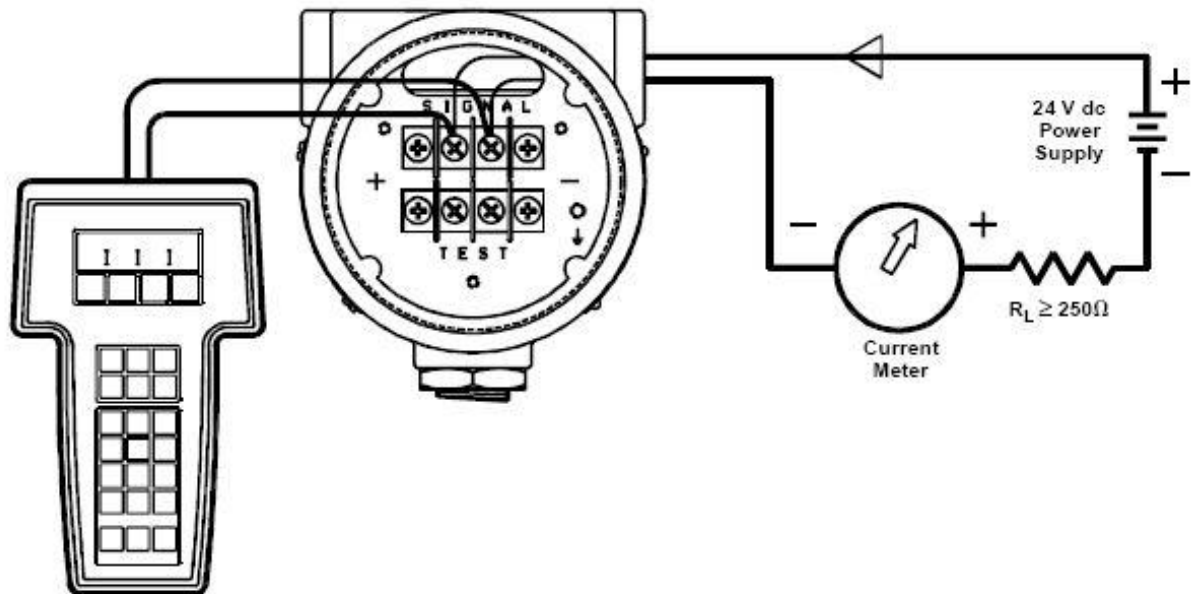

Figure 7 - Bench Wiring Hookup
- Figure 7 – Bench Wiring Hookup
To commission on the bench, connect a 17 to 45 VDC power supply and a current meter, such as the Rosemount Model 282 Validator. Connections should be made as shown in **Figure 7**. The power supplied to the transmitter should not drop below the transmitter lift-off voltage. If the transmitter is being configured when the power drops below the lift-off voltage, the configuration information may not be interpreted correctly by the transmitter. To enable communication, a resistance of at least $250\ \Omega$ must be present between the communicator loop connection and the power supply.
After the bench equipment is connected as shown in **Figure 7**, turn on the HART-based communicator by pressing the ON/OFF key. The communicator will search for a HART-compatible device and will indicate when the connection is made. If the connection is not made, the communicator will indicate that no device was found. If this occurs, refer to IRI-1E-16-EMP Troubleshooting.